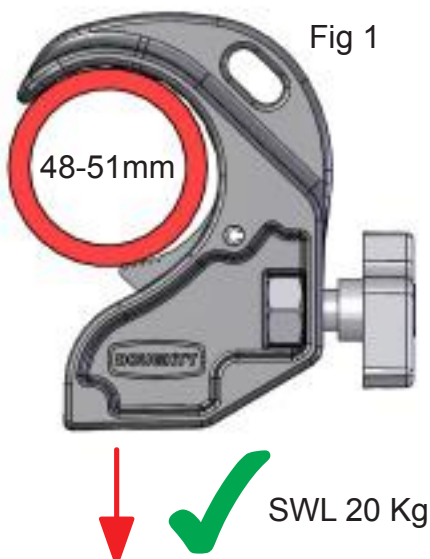

Fig 1
3. The SWL is only applicable when the clamp is used in a vertical orientation. (fig 1)
6. Doughty Engineering Ltd does not recommend using any clamps which do not fully encompass the tube for overhanging (fig 2). All open clamps including hookclamps should be used in a vertical orientation only (fig 1).